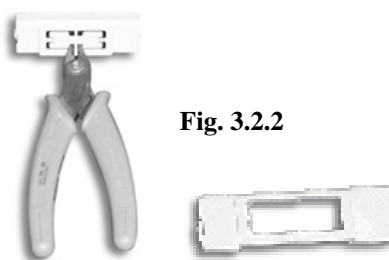

Fig. 3.2.2
3. with cutting nippers, remove the pre-cut plastic part from the cover, thus making the opening for the 3-pin connector (see Fig. 3.2.2);